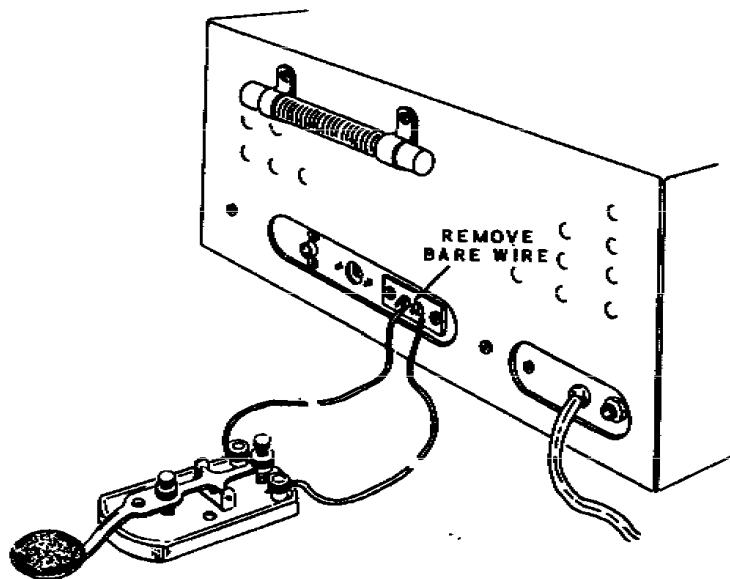

Figure 5
- () Connect a CW key to the terminal strip as shown in Figure 5. Press the key down and tune in a weak AM station.